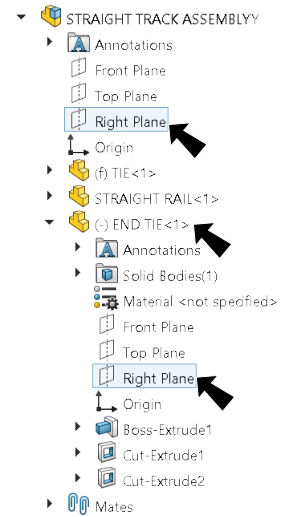

Fig. 17
Step 4. Expand the flyout Feature Manager design tree, click **Right Plane** , expand **Rail** and click **Right Plane** , **Fig. 17**.